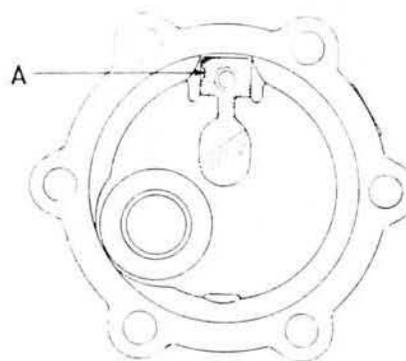

Fig. 63. Location of leaf spring.
1. Fit the leaf spring, Fig. 63, and the stop arm. Tighten the screw, but only so hard that the leaf spring is in good contact with the pump housing.